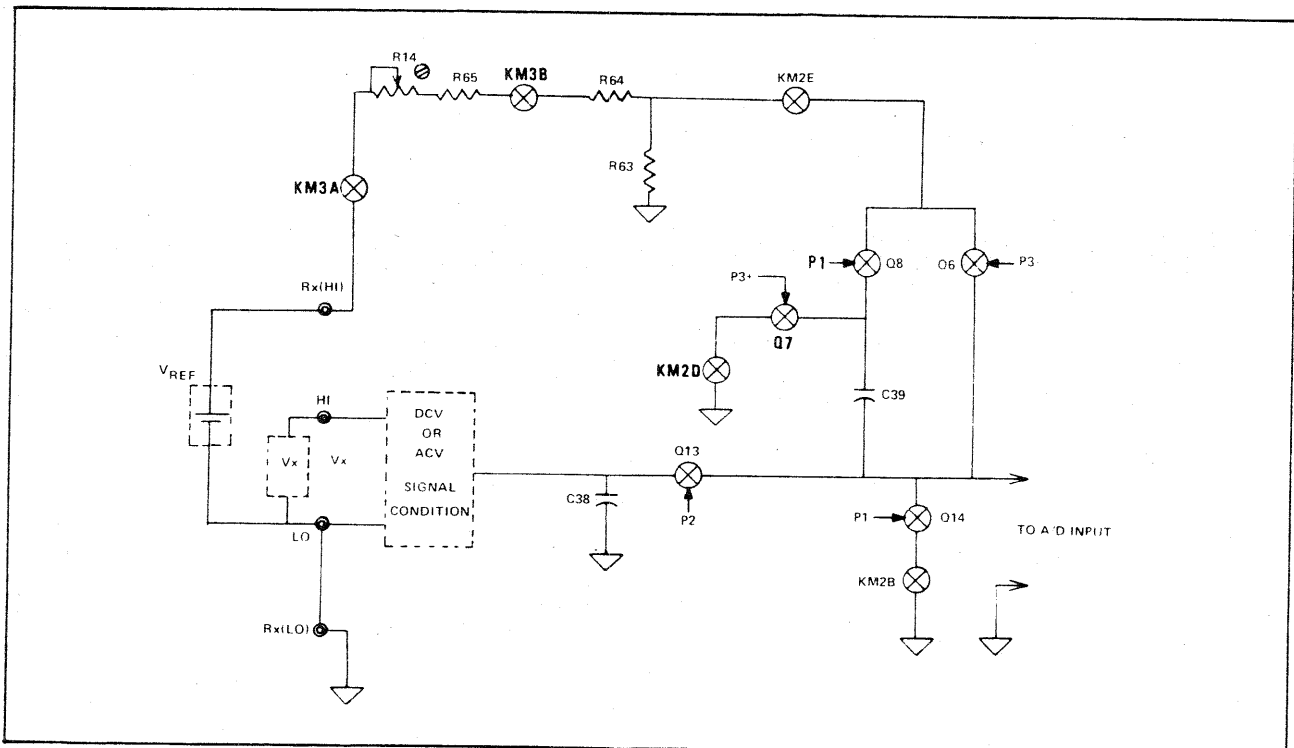

Fig. 4-6. Ratio Measurement Signal Conditioning, simplified schematic
4.4.4 Ratio Measurement Signal Conditioning (Figure 4-6).